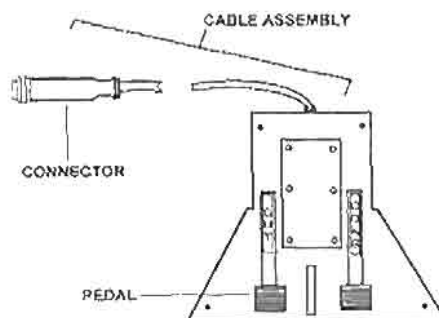

Figure 1-3. Monopolar footswitch.
b. *Footswitches.* The monopolar (fig 1-3) and bipolar (fig 1-4) footswitches are made of heavy cast metal. Both footswitches are explosion proof and splash proof. The attached cable assembly on each footswitch is 10 feet long. Pedals on the monopolar footswitch are labeled for "CUT" and "COAG" activation. The monopolar footswitch also has protective guards to prevent accidental depression.